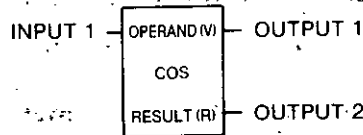

Fig. 5.50 COS General Form
(2) Form
• Fig. 5.50 shows the form of cosine (COS).